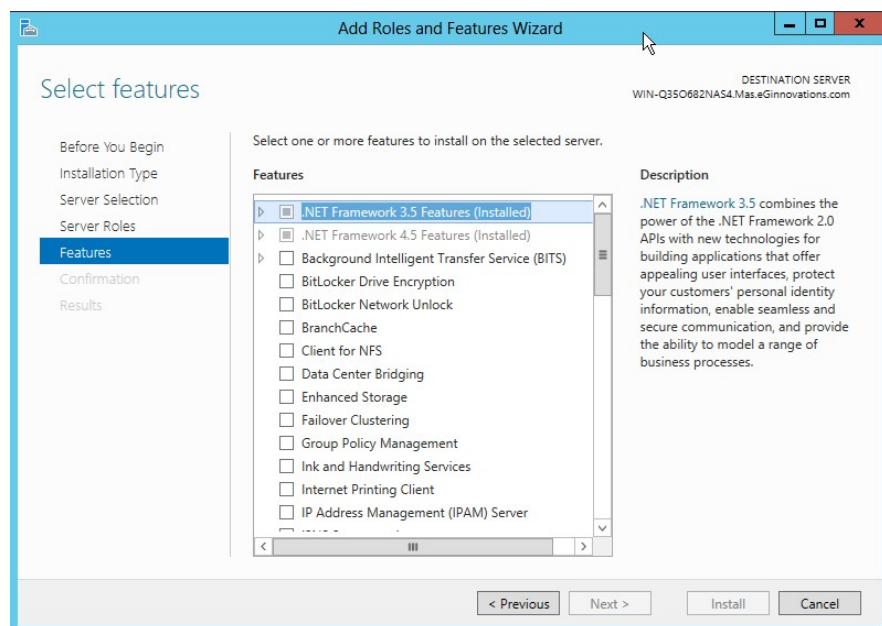

Figure 3.1: Checking whether the .NET Framework 3.5 Features is installed
- For SCOM 2012 / SP1 / R2, Microsoft .NET version 4.0 and above is required. Also, make sure that .NET Framework 3.5 Features (indicated by Figure 3.1 below) is installed on the host on which the eG SCOM Connector is to be installed.